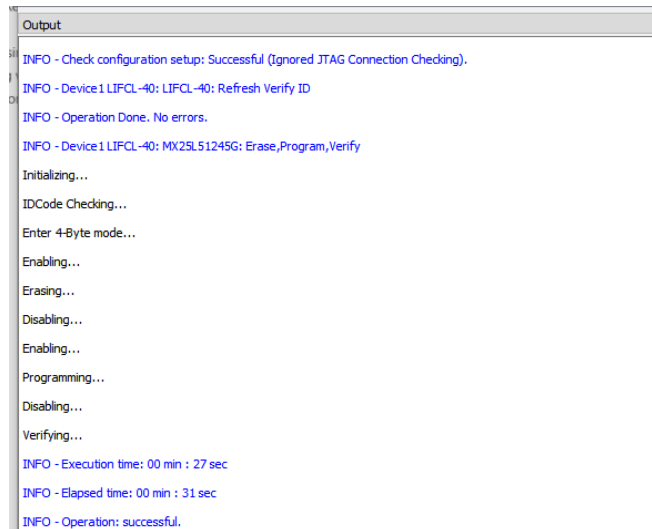

Figure 5.4. Programmer Output Window
- Click the Program icon  from the toolbar, or choose the Design > Program menu item from Radiant Programmer, to program the CrossLink-NX/CertusPro-NX board. Wait for the programming to finish. Check the programming status and result from the output pane, as shown in Figure 5.4.